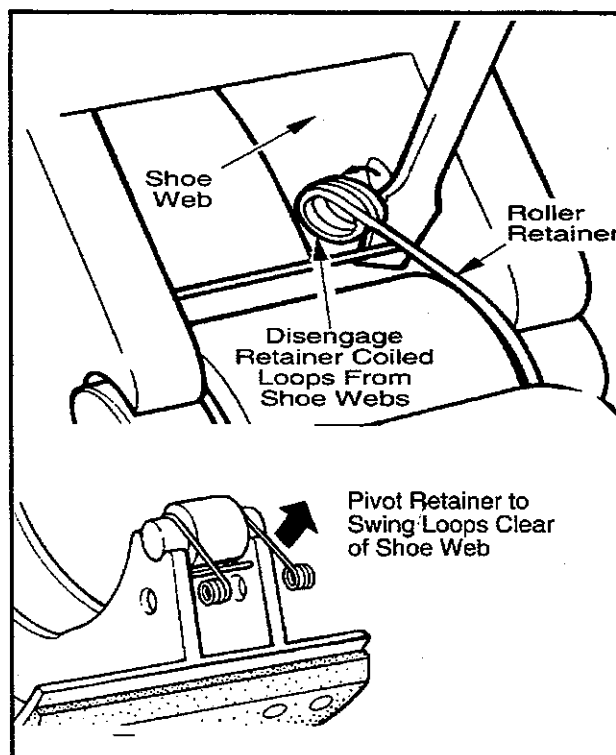

Figure 12—Pry Roller Retainer
3. Pry roller retainer coiled loops out of each shoe web holes. (See Figure 12—Pry Roller Retainer.)